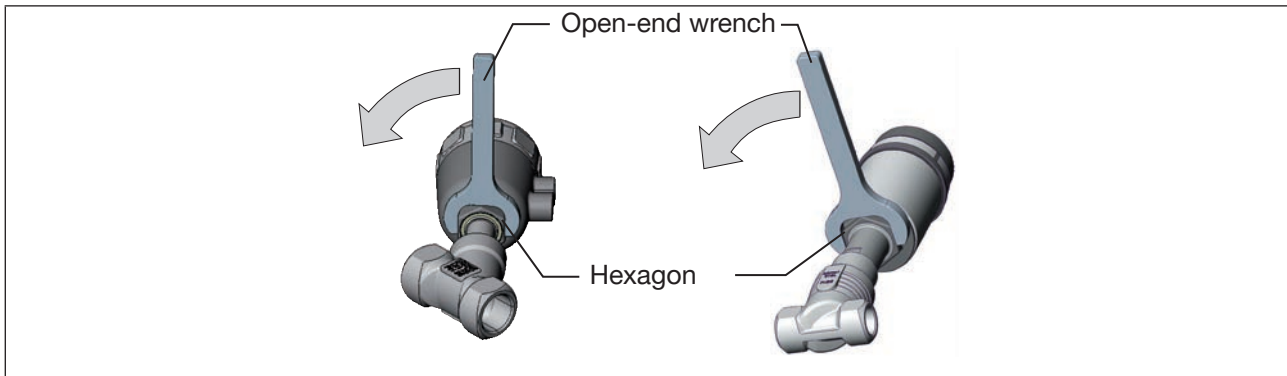

Figure 30: Rotating with special key / open-end wrench
- ▶ Rotate the actuator module in the specified direction only (see “Figure 30”).